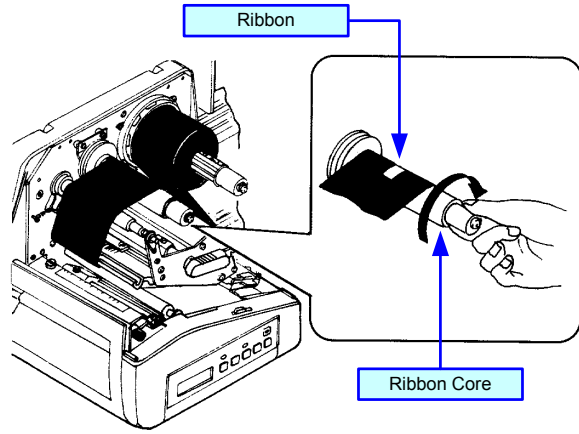

Figure 3-4e, Ribbon Loading
- 7 Tape the free end of the ribbon to the ribbon core (**Figure 3-4e**).